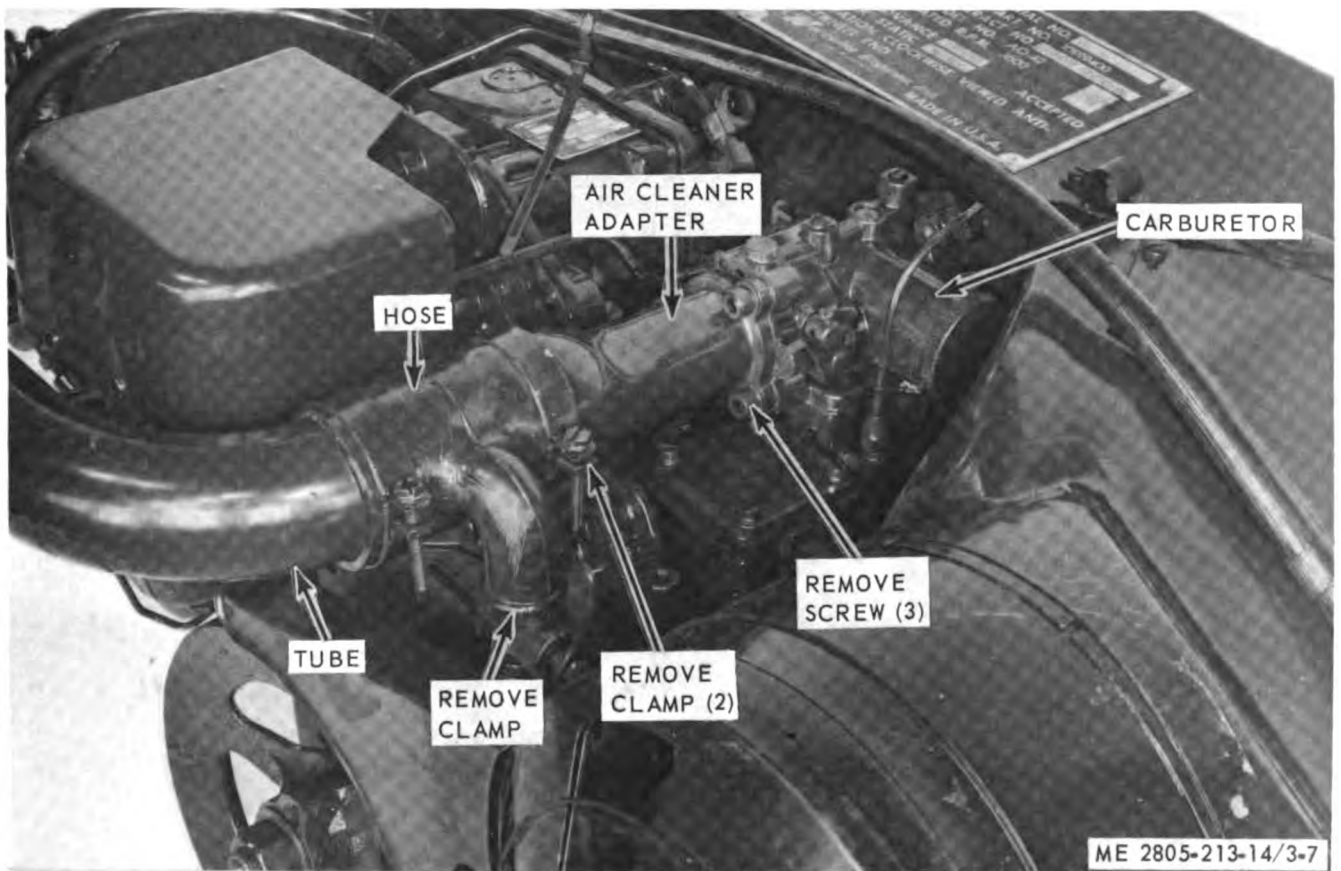

Figure 3-7. Air cleaner adapter and tube, removal and installation (Model AO4B-V).
b. Removal. (Model AO42-V). Refer to figure 3-7 and remove the air cleaner adapter and tube.
(1) Clean the air cleaner adapter and tube with an approved cleaning solvent and dry thoroughly.
(2) Inspect the air cleaner adapter and tube for cracks, breaks, and other damage.
(3) Inspect the mounting hardware for damage. Replace any defective part.
d. Installation. (Model AO42-V). Refer to figure 3-7 and install the air cleaner adapter and tube.